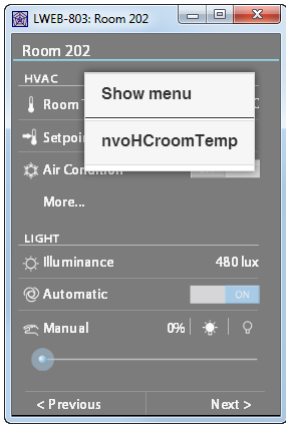

Figure 49: Data Point Context Menu
- Context menu for data points:** If this checkbox is enabled, you can click with your right mouse button on a control to view data point details. A context menu is displayed listing the attached data points (see Figure 49). Select the name of the data point for which you want to inspect the properties as shown in Figure 50.